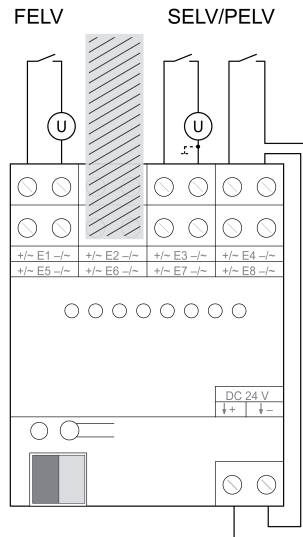

Figure 5
- Leave two inputs unused (Figure 5) between the inputs wired with SELV/PELV and FELV circuits.